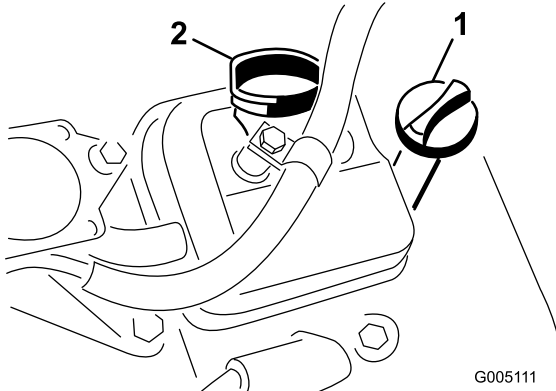

Figure 25
3. Screw the dipstick into the tube and make sure it is seated fully (Figure 25).